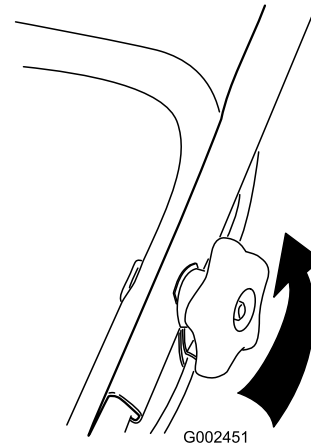

Figure 54
1. Loosen the handle knobs until you can move the upper handle freely (Figure 54).